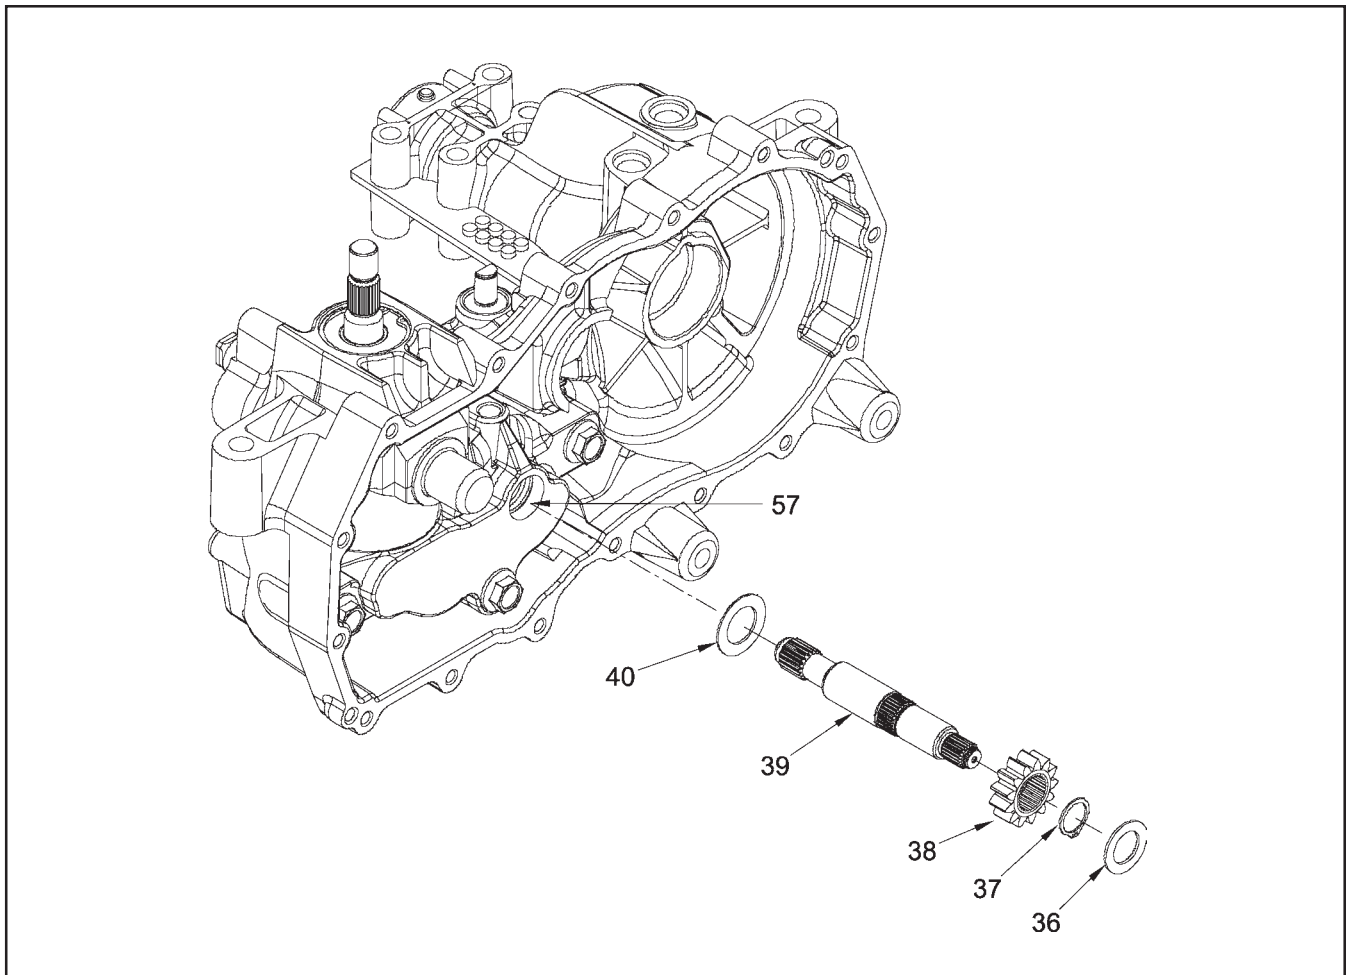
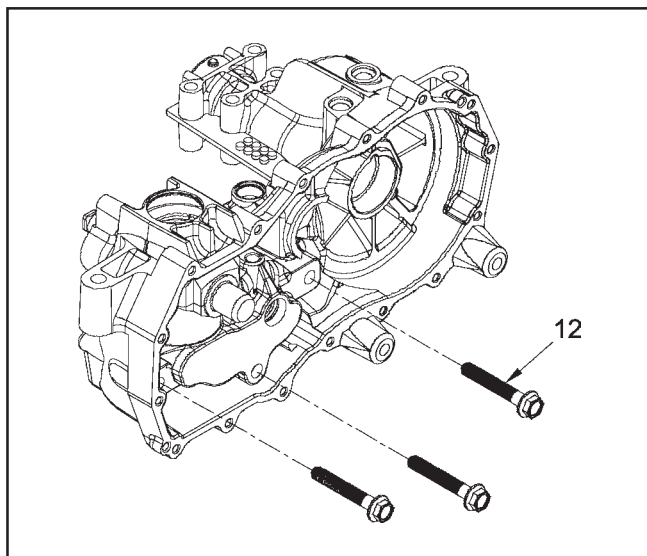
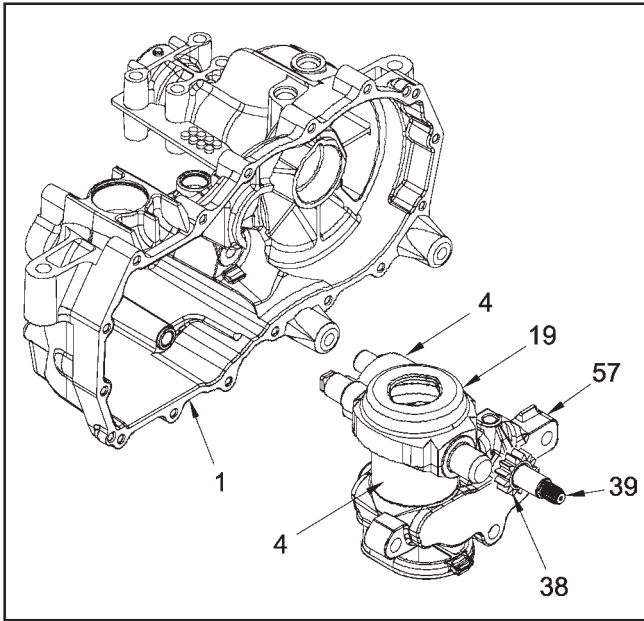

Figure 9. Motor Shaft
Figure 15
Figure 19
Refer to Figure 9.
12. **(See Figure 15)** Remove the center section mounting screws (12). NOTE: The center section is under motor block piston spring pressure. These screws are factory installed to 700 lb-in (80 Nm) and use an anaerobic thread adhesive. A breaker bar will be required at this step. Clean the internal threads of the mounting holes with compressed air.
6. (See Figures 9 & 19) Install the motor shaft (39), pinion gear (38) and flat washers (36 & 40) into the center section (57).
7. Assemble the motor block assembly (4) onto the motor shaft (39).
8. (See Figure 19) Install the motor shaft, center section and motor block assembly into the housing so that the motor block pistons contact the thrust bearing race. NOTE: Hold in place and insure all pistons are still positioned correctly in the cylinder bore by confirming spring bias against the center section.
9. (See Figure 15) After applying thread adhesive, insert the center section mounting screws (12) while holding downward pressure on the center section assembly (57, Figure 19).
10. Tighten the center section mounting screws (12) to the proper torque. Refer to Table 6. NOTE: The center section must be fully seated into the pilot bore before the screws